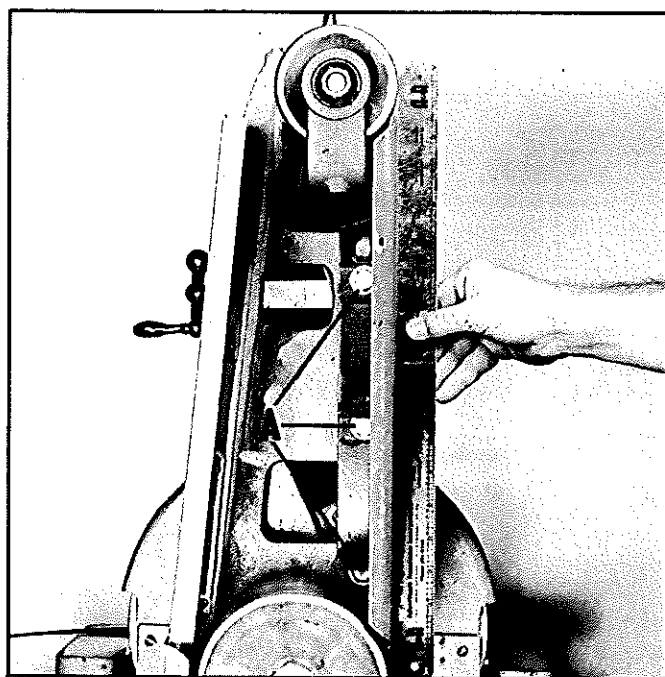

Fig. 25
2. Remove the three screws (A) Fig. 25, that attach the platen to the machine and remove the platen.
3. When replacing the platen, attach it to the machine with the three screws (A) Fig. 25. Do not tighten the three screws.
4. Using a straight edge, as shown in Fig. 25, adjust the platen so it is $1/32$ " higher than the crown of the drums and tighten the three screws (A).